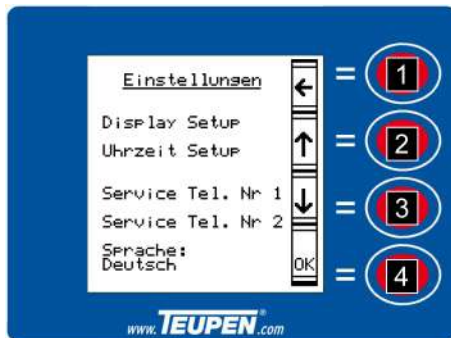

Fig. 66: Settings
1. ➔ Using the [function keys] (Fig. 66/2 and 3) select a sub-menu.
2. ➔ Using the [function key] (Fig. 66/4) jump into the selected sub-menu.
3. ➔ Using the [function key] (Fig. 66/1) return to the [main menu].